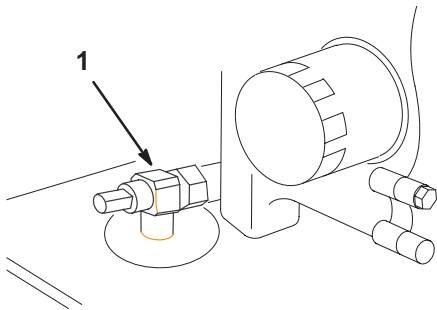

Figure 34
3. Place a pan below the oil drain. Use either a flat screw driver, 3/8 inch wrench, or 10 mm wrench to open the valve (Fig. 34).
4. Rotate the valve end clockwise to close the valve. Rotate the valve end counterclockwise to open the valve (Fig. 34).
5. When the oil has drained completely, close the drain valve (Fig. 34).